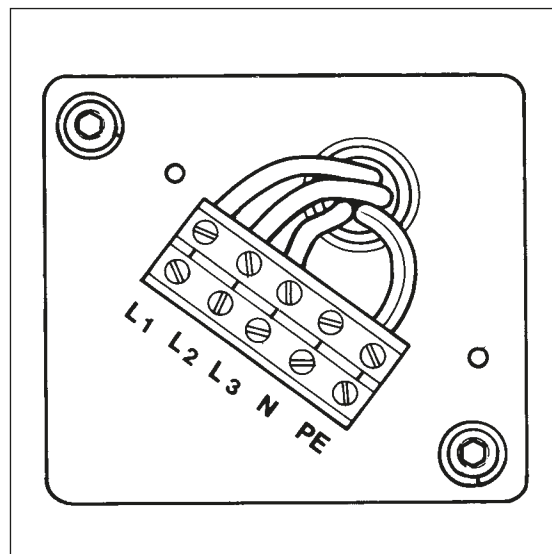

Fig.6
Electrical connection (Fig.6)
- Check that the mains voltage of your machine corresponds with the voltage in your workshop; then open the electrical connection box at the back of the machine (fig.6).